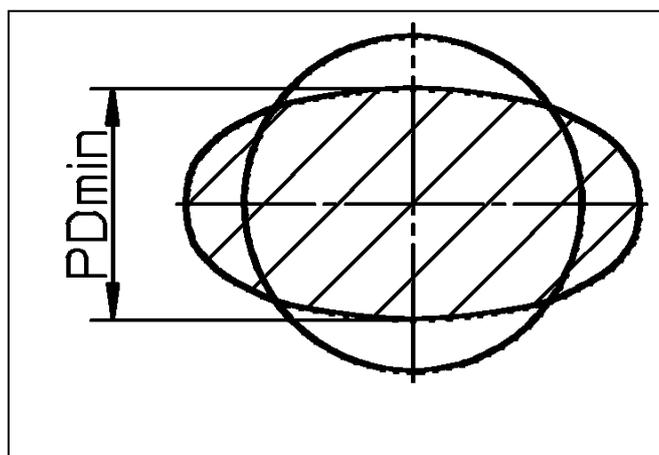

Fig. 12
- If the coupling has a distinct torsional backlash, or if the minimum buffer thickness (PD_{min} , Fig. 12) according to table 11 is reached, we recommend to replace the elastic buffers.